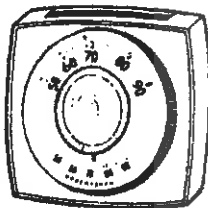

FIGURE 1 - COVER
- Remove cover, figure 1, (friction fit) from thermostat body by gripping at top and bottom and lifting from thermostat body. Use extreme care not to damage working parts.